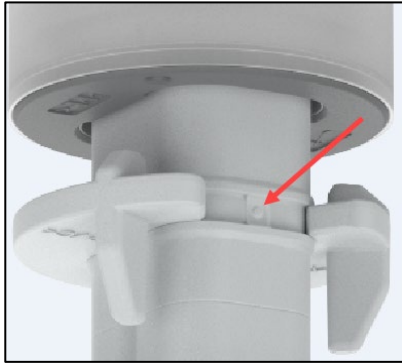

Figure 10
- Make sure that the snap ring is fitted correctly! The marking on the pipe must be visible at the opening of the snap ring. (see Figure 10)